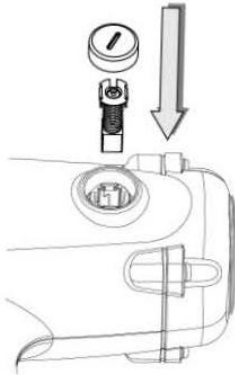

Fig.3
- Put the new carbon brush and carbon brush cover back into the housing in proper order. (Fig. 3)